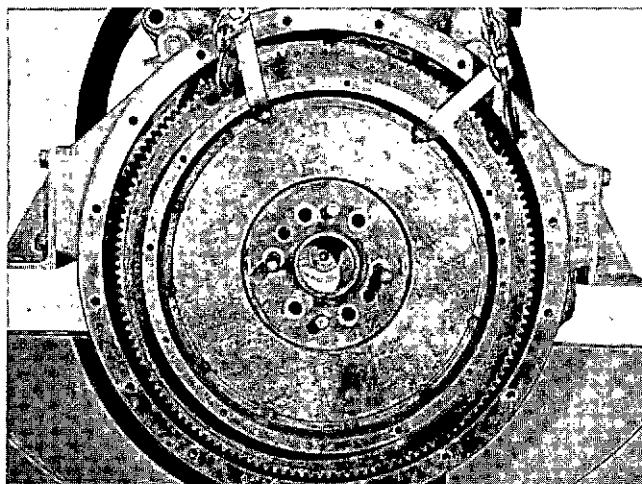

Fig. 0-36, V40068. Removing flywheel
4. Using a suitable hoist, lift flywheel from guide studs. Fig. 0-36.